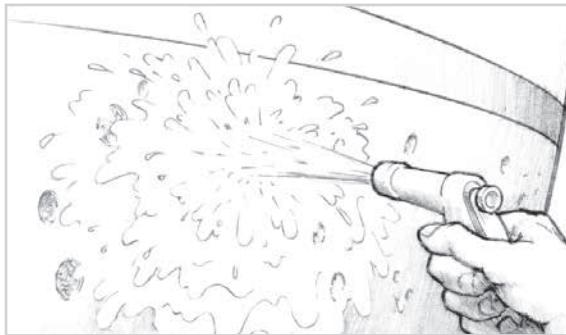

Figure 12-6 Scrub the surface with a stiff brush while flushing with fresh water to remove contaminants. Allow to dry completely
1. Pressure wash, or scrub the surface with an abrasive pad or stiff brush while flushing with fresh water to remove contaminants (Figure 12-6). The brief exposure to the fresh water won't drive up the moisture content of the laminate. Wipe dry with clean paper towels. Avoid washing with solvents, unless a particular contaminant is not water soluble. If you must use solvents, apply and dry with paper towels before the solvent evaporates. Do not use rags to apply or remove solvents